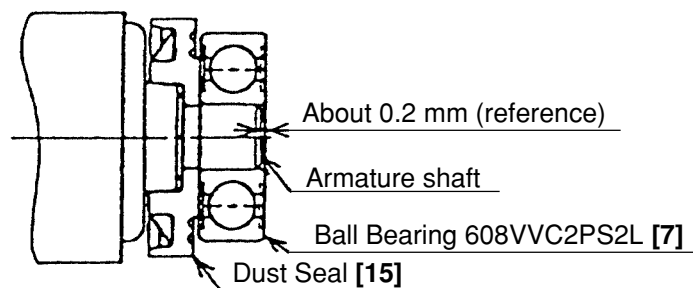

Fig. 5
- (1) Ensure that the terminals of the stator are not bent or otherwise damaged.
- (2) Generously lubricate the teeth of Gear [17] and Pinion [5] with grease. Rub grease onto the teeth with your fingers so that the grease reaches each tooth bottom. Note that the Gear [17] and the Pinion [5] may wear faster than normal if under-lubricated.
- (3) Be sure to soak the inner diameter of the Felt Packing [21] with machine oil. Otherwise, its dust-sealing function will fail to work properly, resulting in earlier damage of the Ball Bearing 6001VVCMP2L [20].
- (4) When replacing the Armature 220 V [9] and the Ball Bearing 608VVC2PS2L [7] on the commutator side, press inward on the Dust Seal [15] while taking care of its direction until the end face of the Dust Seal [15] contacts against the end surface of the Armature 220 V [9] and make sure that Dust Seal [15] cannot be turned freely by hand. Keep the end face of the armature shaft approximately 0.2 mm (reference) distance inward of the end face of the Ball Bearing 608VVC2PS2L [7]. (See Fig. 5.)